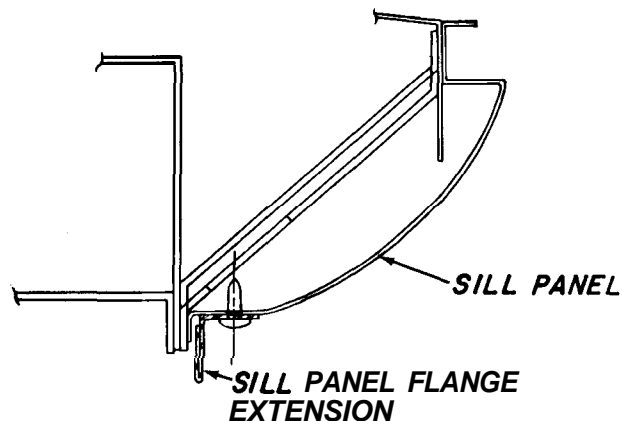

FIG. 2
2. Place the flange extensions next to the body sill lower flange with the attaching holes upward (see Fig. 2) and with the rear of the extension flush with the rear of the sill panel flange (see Fig. 1).